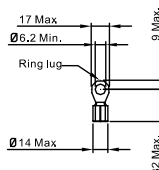

Figure 1
1. Figure 1 shows the terminal specification.